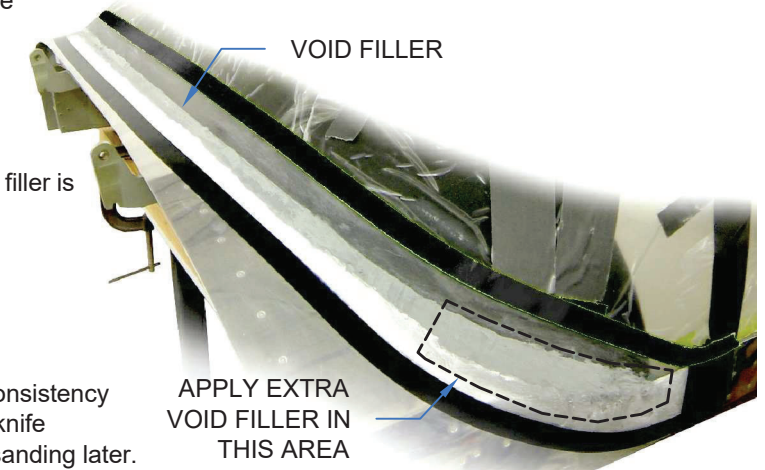
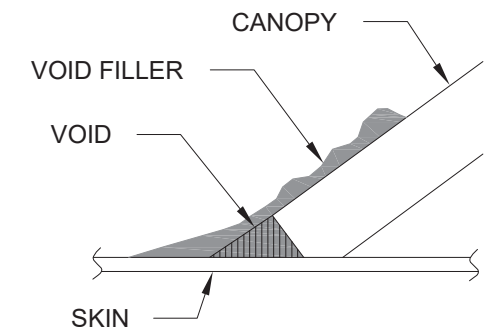
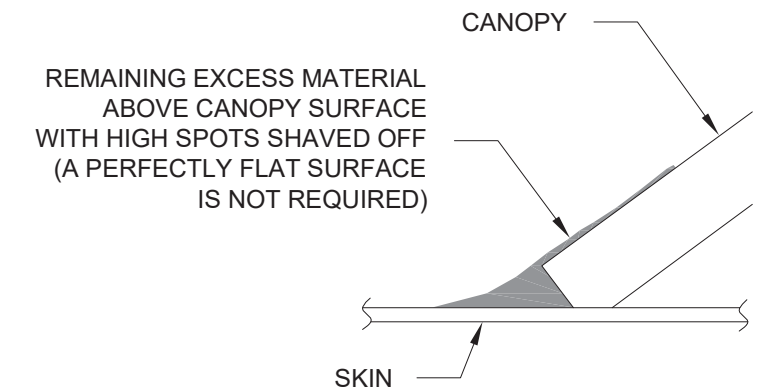

FIGURE 4: APPLY VOID FILLER
FIGURE 5: APPLY VOID FILLER
FIGURE 6: SHAVE HIGH SPOTS
Step 15: In the areas shown in Figure 4 and Figure 5, squeeze the void filler out of the bag into the void between the canopy and skin. A larger amount of void filler is necessary in the area noted in Figure 4. Excess void filler on the canopy and skin will be removed later.
Step 16: Use a craft stick to smooth and push the void filler into the void. See Figure 5.
Step 17: When the void filler has cured to a rubbery consistency (still able to be marked with a fingernail), use a sharp knife to shave off any high spots. This will save time while sanding later. See Figure 5 and Figure 6.